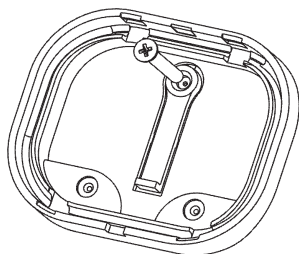

Figure 3
For the wall-tamper monitoring, the second screw should be fastened in an openable hole (7) (See Figure 3).